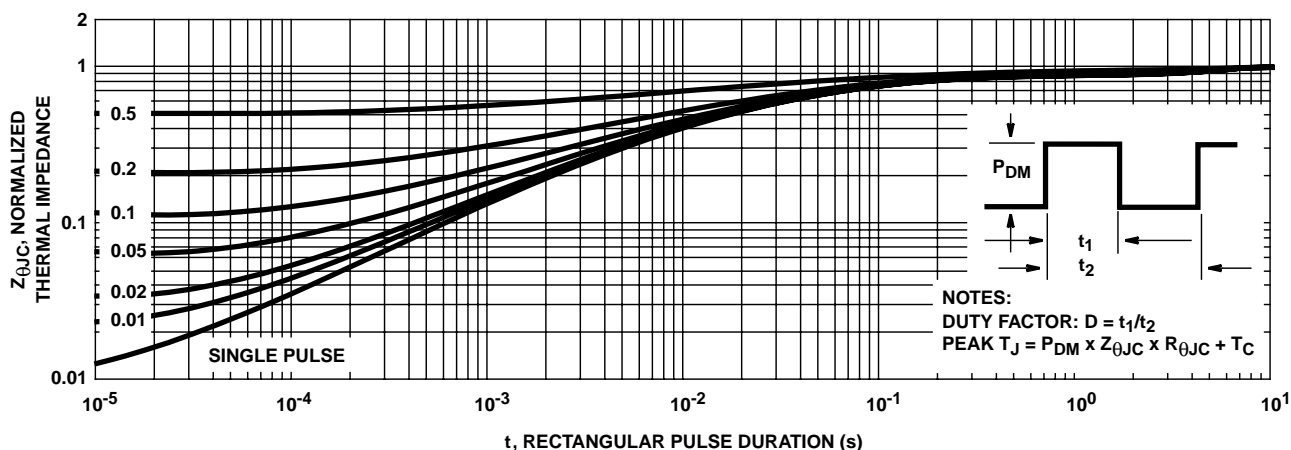

FIGURE 3. NORMALIZED MAXIMUM TRANSIENT THERMAL IMPEDANCE
3. Repetitive rating: pulse width limited by Max junction temperature. See Transient Thermal Impedance curve (Figure 3).